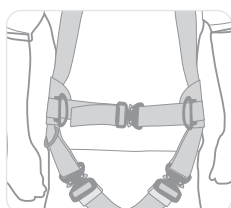

Figure 15
- Where included (RH3 harness only), connect the waist belt buckle at the front, and adjust the strap by pulling the strap through the buckle to achieve a snug fit (Figure 15). It is essential to regularly check the fastening and adjustment elements during use. The waist belt is approved for a user, including tools and equipment, with a weight of up to 150kg.